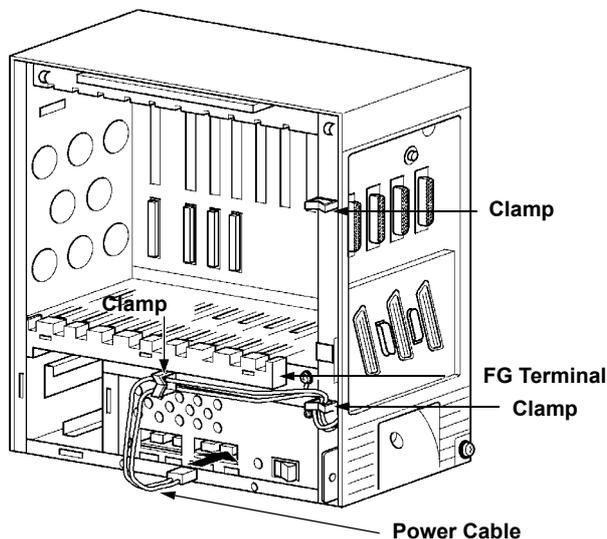

Figure 4-24 Connecting the PSU Power Cable to the Basic KSU
3. Lead the KSU power cable through the clamp and connect the PSU as shown in *Figure 4-24 Connecting the PSU Power Cable to the Basic KSU*.